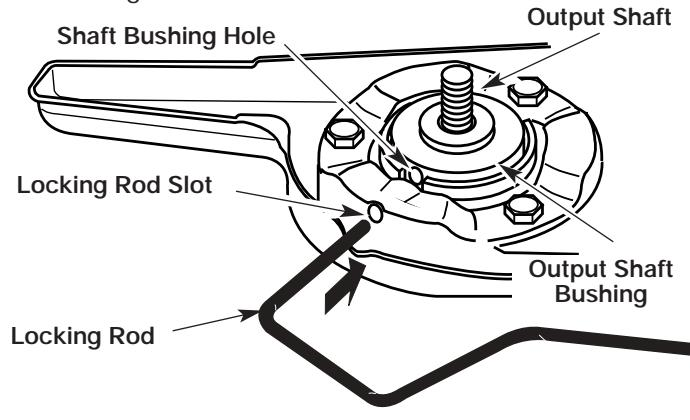
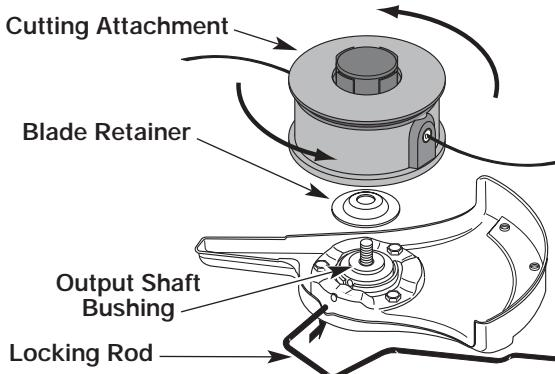

Figure 8
Figure 15
1. Align the shaft bushing hole with the locking rod slot and insert the locking rod into the shaft bushing hole. See Figure 8.
6. Align the shaft bushing hole with the locking rod slot and insert the locking rod into the bushing hole. See Figure 8.
1. Align the shaft bushing hole with the locking rod slot and insert the locking rod into the bushing hole. See Figure 8.
5. Align the shaft bushing hole with the locking rod slot and insert the locking rod into the shaft bushing hole. See Figure 8. Place the blade retainer on the output shaft with the flat surface against the output shaft bushing. See Figure 15. Screw the cutting attachment counter-clockwise onto the output shaft. Tighten securely.